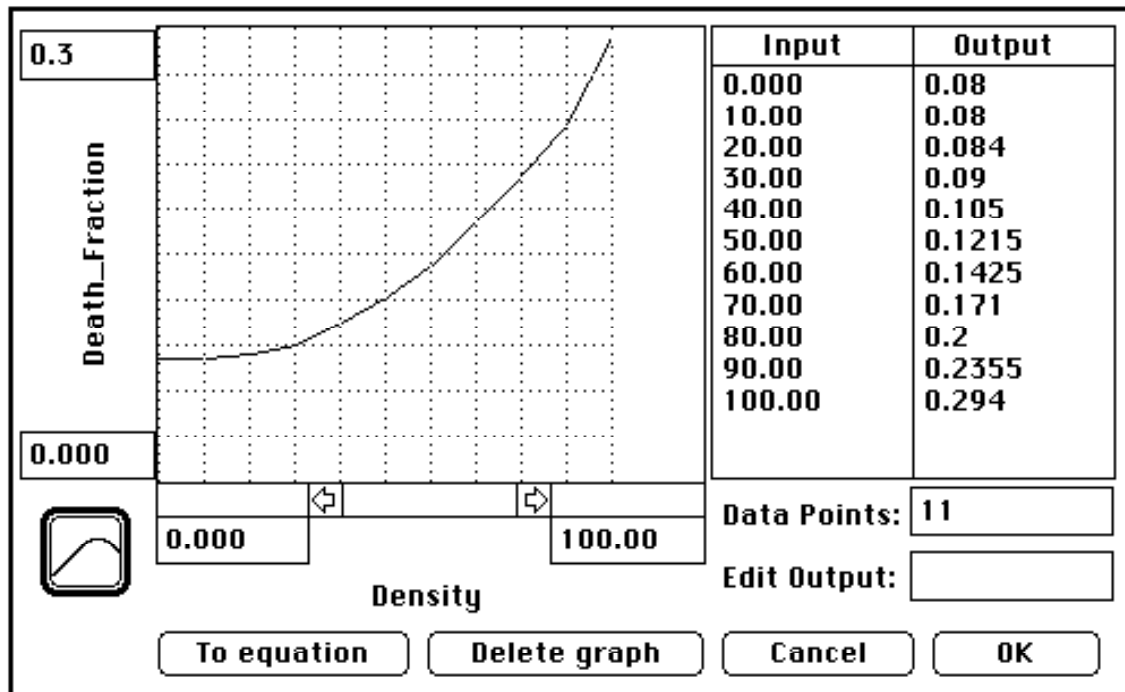

Figure 2: Death Fraction graphical function
2. Equilibrium will occur when the hatch rate and the death rate are equal. For my model, this occurred when the population was equal to 800 penguins. The density at this point was 80 penguins per acre, which gives us a death fraction of 0.2 (see Figure 2) This makes sense because the hatch fraction is a constant at 0.2.